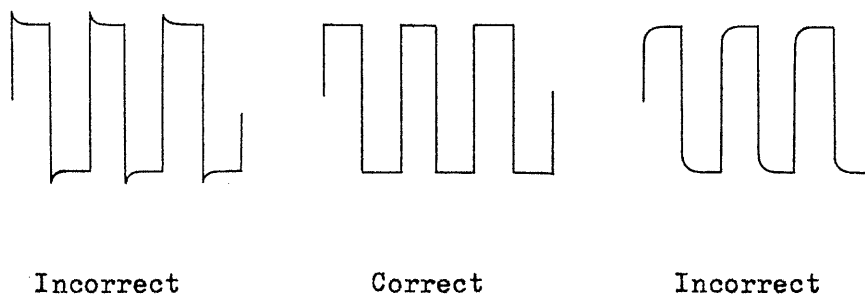

Fig. 6-4
- (1) Apply to the vertical input terminal of the oscilloscope the output of a pulse generator which provides a quality waveform signal of repetition frequency of 1 kHz covering voltages of 0.04 ~ 80 Vp-p.
- (2) Set the VOLTS/CM switch in the 0.02 position.
- (3) Adjust the waveform as shown in Fig. 6-4 by adjusting capacitors C105 ~ C122 as tabulated below.